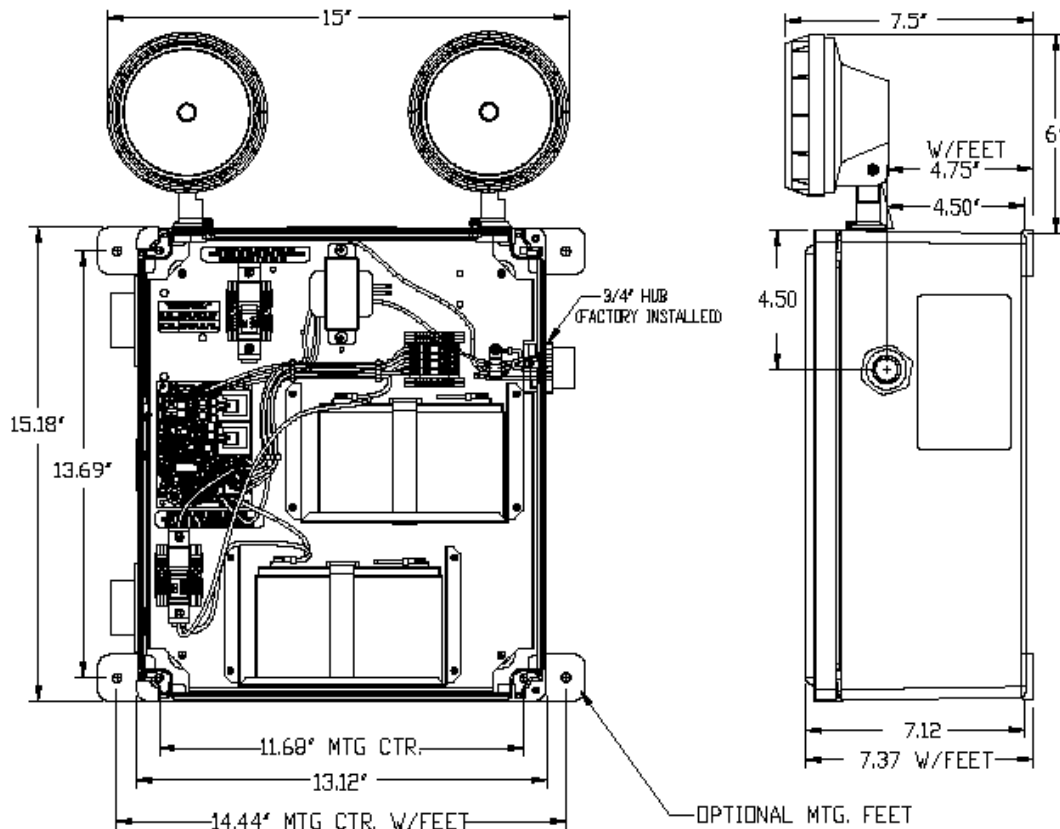

Figure 4
1. Mount enclosure to wall using (4) thru holes or optional mounting feet. (See Figure 4).
6. Adjust head(s) as follows: (See Figure 4).